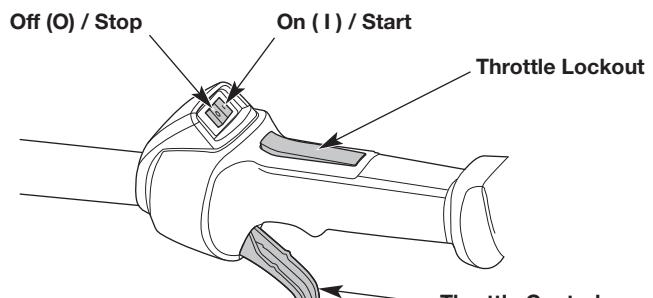
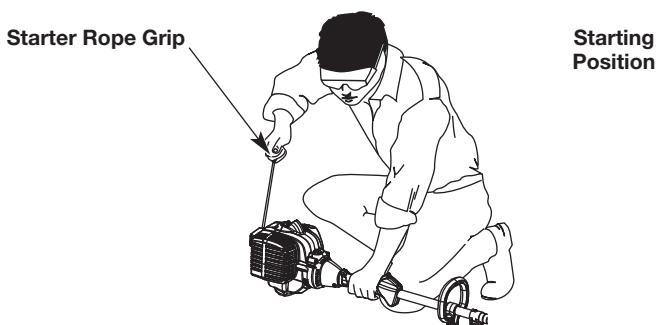

Fig. 6
Fig. 9
WARNING: Avoid accidentally starting the unit. To avoid serious injury, the operator and the unit must be in a stable position when pulling the starter rope (Fig. 9).
- NOTE:** There is no need to turn the unit on. The On/Off switch is in the ON (I) position at all times (Fig. 6).
5. Crouch in the starting position (Fig. 9).
6. **DO NOT** squeeze the throttle control (Fig. 6). Pull the starter rope with a controlled and steady motion until the unit starts (Fig. 9).
7. Idle the engine for 5 to 10 seconds. If the unit stops during this time, press the throttle lockout, squeeze the throttle control and pull the starter rope in a controlled and steady motion until the unit starts (Fig. 6).
8. Press the throttle lockout and squeeze the throttle control (Fig. 6). Allow the engine to warm up for 30 to 60 seconds.
7. **DO NOT** squeeze the throttle control (Fig. 6). Run the electric start accessory in intervals no longer than 2 seconds each until the unit starts.
8. Idle the engine for 5 to 10 seconds. If the unit stops during this time, press the throttle lockout, squeeze the throttle control and run the electric start accessory in intervals no longer than 2 seconds each until the unit starts (Fig. 6).
10. Press the throttle lockout and squeeze the throttle control (Fig. 6). Allow the engine to warm up for 30 to 60 seconds.
2. Press and hold the On/Off switch in the OFF (O) position until the engine comes to a complete stop (Fig. 6).